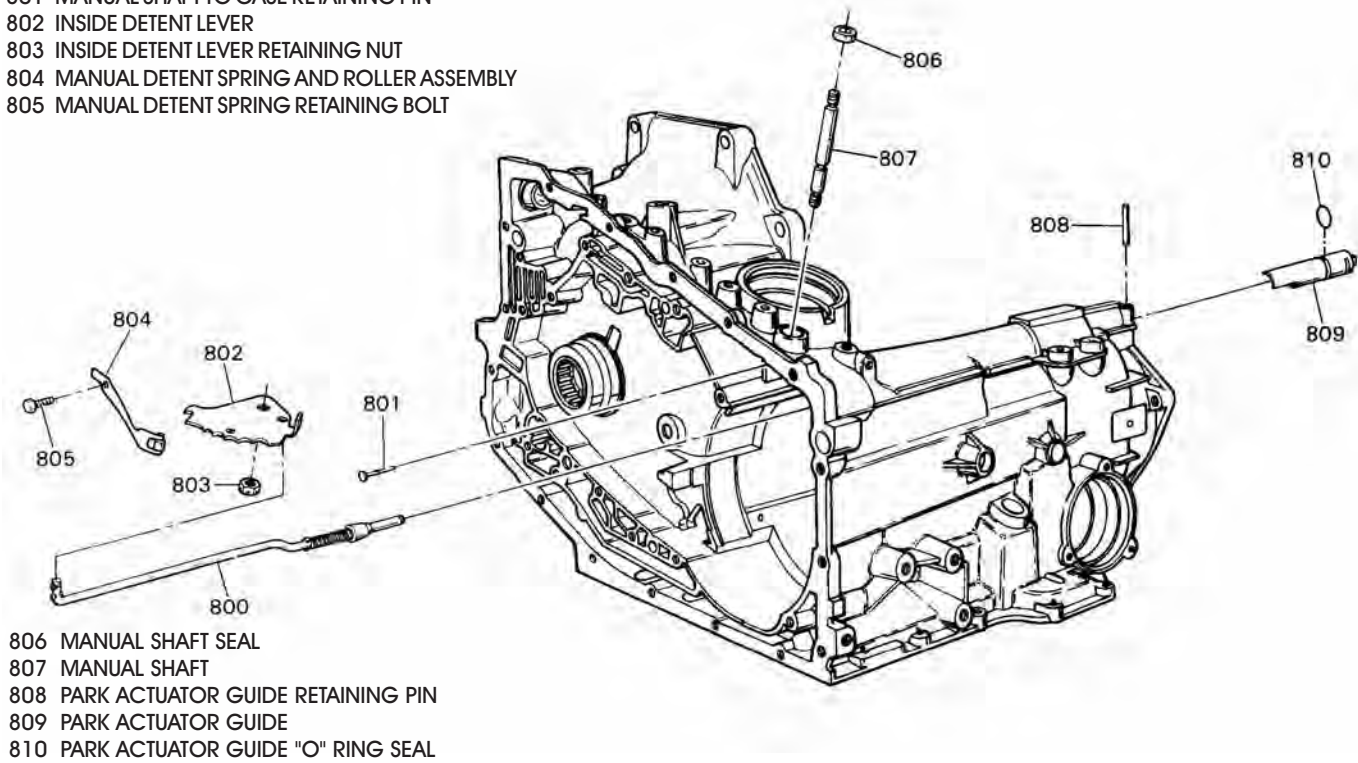

Figure 75
59. Remove the case park linkage components using Figure 75 as a guide.
8. Install actuator guide into the transaxle case, as shown in Figure 75, align slot for retaining pin.
9. Install actuator guide retaining pin, as shown in Figure 75.
10. Install manual shaft into case and carefully through the manual shaft seal, align the slot for retaining pin, and install the retaining pin, as shown in Figure 75.
11. Install park lock actuator rod onto the inside detent lever (See Figure 75).
12. Install the assembly into the actuator guide and inside detent lever over the manual shaft, as shown in Figure 75.